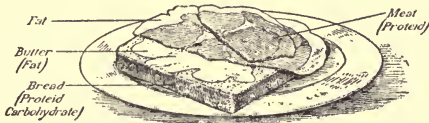

FIG. 24. — Food elements in a sandwich.
**Mixed diet.** In selecting food to furnish the protein which we must have, we may choose from meats, fish, beans, peas, cereals, and nuts. The carbohydrates we get almost entirely from vegetable foods, and the fats largely from animal foods, and to a minor extent from nuts. It will be seen from this that it is possible to obtain all the nutrients that the body needs from vegetable foods alone. There are some people, called vegetarians, who maintain that this is a more healthful diet than one composed of both animal and vegetable foods. The agitation aroused by these people has undoubtedly had beneficial results in showing that people generally use more animal food than the body requires and that a diet with a larger proportion of vegetable food and a smaller proportion of animal food would be more healthful. But the consensus of common experience and of medical advice is that for most people a mixed diet is preferable to a vegetarian diet. A mixed diet allows a greater variety of foods and makes it easier to select foods containing the proper proportions of nutrients. (See figure 24.)